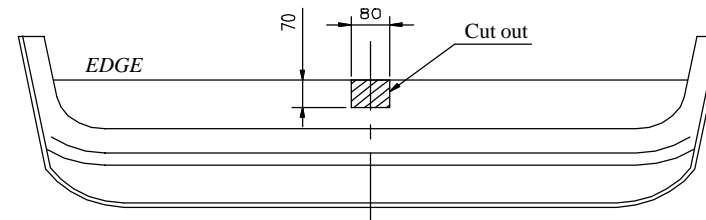

Fig. 2
- In bottom part of the bumper cut out the hole as show in the fig. 2
- Put bar of the towbar (pos. 1) into the chassis member and fix with bolts M10x30mm (pos. 7), use big washers  $\phi 35 \times \phi 12 \times 3 \text{mm}$  (pos. 11).
- Put brackets (pos. 4 and 5) to the rear piece and fix it through holes pos. A to the bar of towbar using bolts M8x30mm (pos. 8), use big washers  $\phi 25 \times \phi 9 \times 2 \text{mm}$  (pos. 12).
- Through holes (pos. B) in brackets (pos. 4 and 5) fix nuts M8 with big washers  $\phi 25 \times \phi 9 \times 2 \text{mm}$ . Take care at the torque moment - **10 Nm**.
- Through holes (pos. C) in brackets (pos. 4 and 5) make holes with drill  $\phi 9 \text{mm}$ , and next fix with bolts M8x30mm (pos. 8).
- Fix body of the automat (pos. 9) and the socket plate (pos. 3) using bolts M12x25mm (pos. 6) from accessories. Place tow-ball (pos. 2) according to supplied instruction.